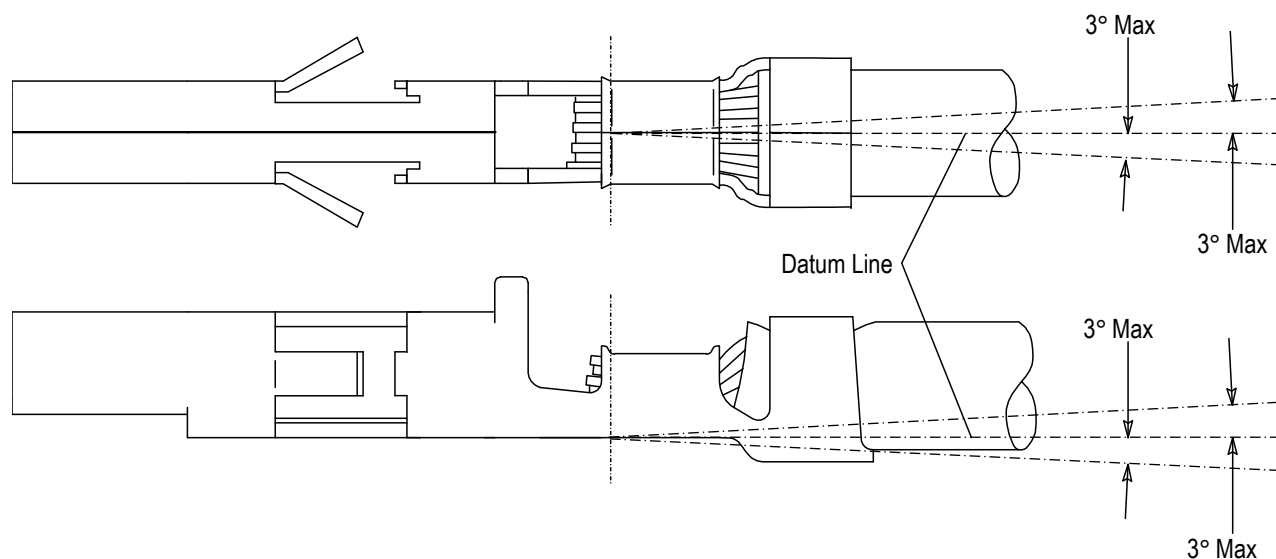

Figure 4
- The side-to-side bending of the contact may not exceed the limits provided in Figure 4.
- The crimped contact, including cutoff tab and burr, shall not be bent above or below the datum line more than the amount given in Figure 4.